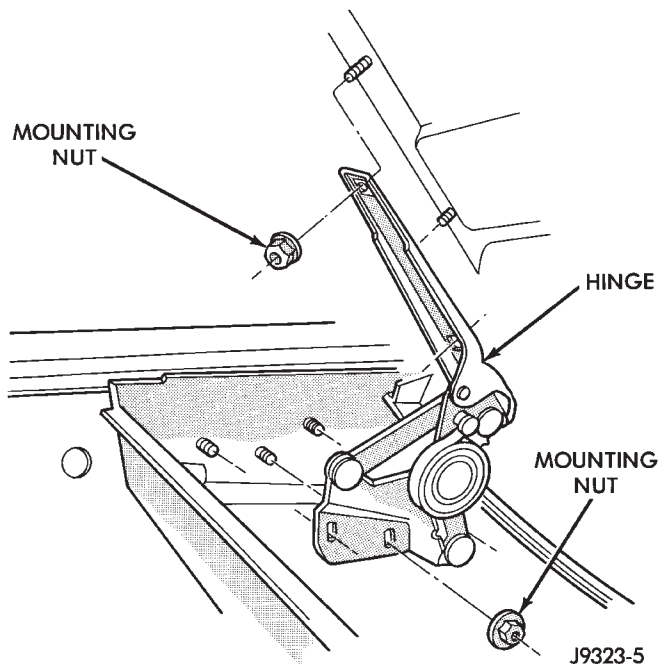

Fig. 3 Hood Hinge
- (1) Raise hood.
- (2) If equipped, disconnect underhood lamp connector.
- (3) Mark location of the hood hinges and hinge shims (Fig. 3) for installation alignment.
- (4) Remove nuts that attach hinges to hood. Remove hood from vehicle with aid of a helper.
- (1) Remove hood from vehicle.
- (2) Remove hinge retaining nuts from studs (Fig. 3).
- (3) Remove hinge from inner cowl side panel.